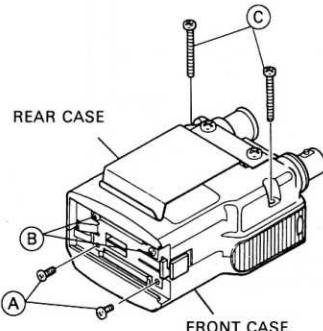

Figure 4-2
- c) Replace the front case and back cover so that they fit together. As shown in Figure 4-2, secure the front case in place by screwing in the two body and bottom cover fixing screws **B**.
- d) Replace the electrical contact screw **A** which was removed earlier (Figure 4-2). First inserting the electrical contact back into the lock button groove and then secure it with the screw.